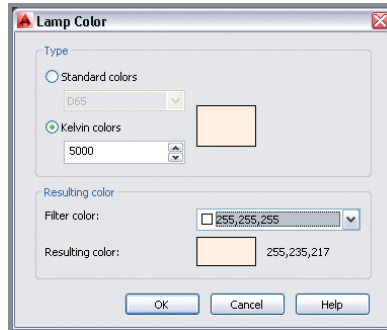

FIGURE 18.12 Specifying lamp color by temperature
- Right-click the selected lights in the Light Lister and choose Properties. Select the Lamp Color property, and click the icon to the right of the drop-down menu to open the Lamp Color dialog box. Select the Kelvin Colors radio button, type **5000**, and press Tab. The resulting color changes (see Figure 18.12). Click OK.